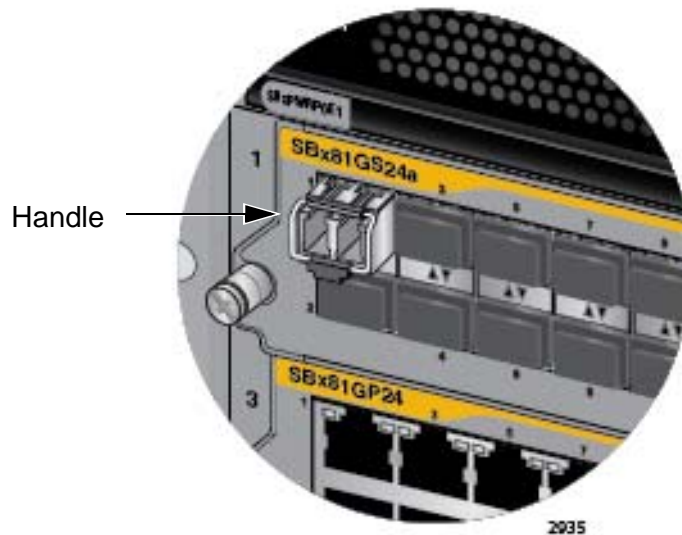

Figure 97. Verifying the Position of the Handle on a Transceiver
5. Before connecting the cable, verify the position of the handle on the transceiver. The handle should be in the up position if the transceiver is in the top row on the line card, as shown in Figure 97, or the down position if the transceiver is in the bottom row.